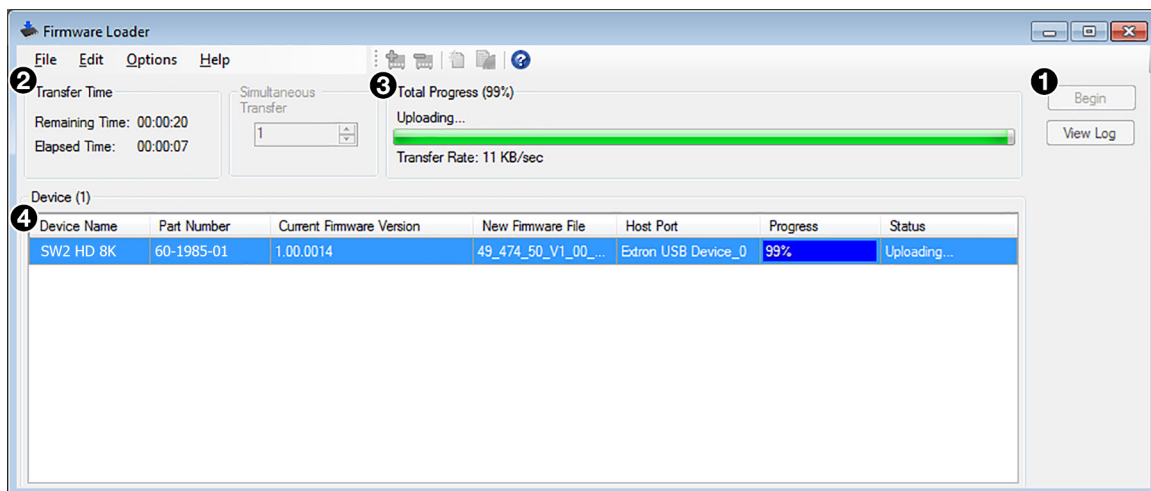

Figure 20. Firmware Upload in Progress
6. In the Firmware Loader dialog box, click **Begin** (see figure 20, ①).